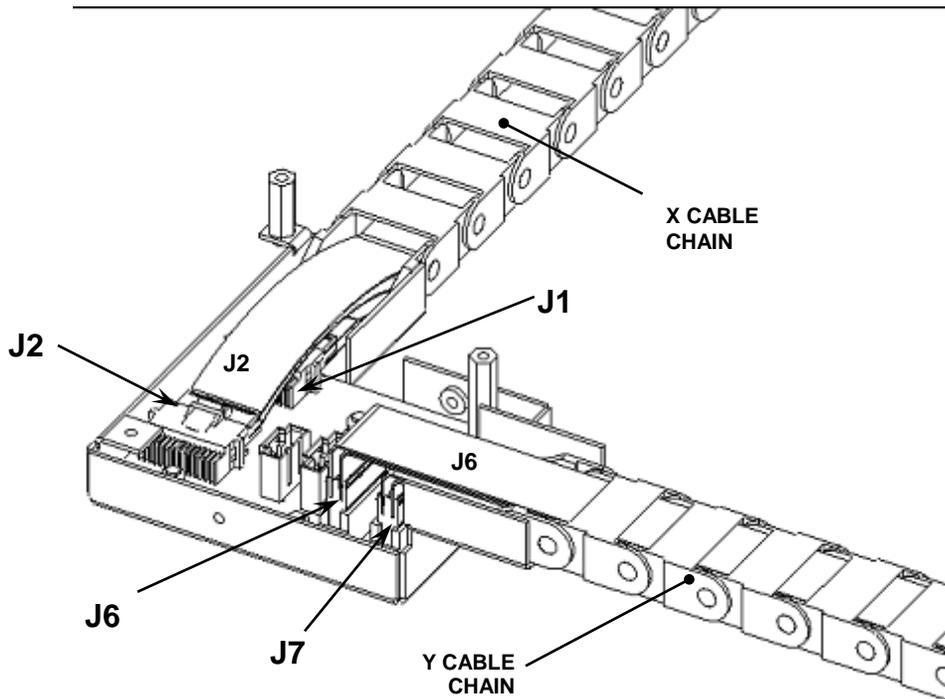

Figure 8-9: Removing the Flex Cables
5. Remove the two double flex cables connected to J6 and J7 in Figure 8-9.